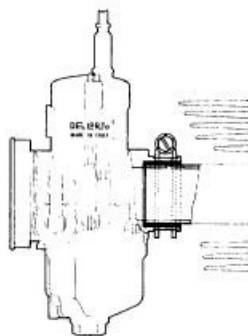

fig. 5
**B-female clamp fixing** (figure 5)
Note that with the female clamp fixing and the flange connection, as you can see in figure 5 and 6, there is also the need to provide both effective heat insulation and a perfect airtight seal.